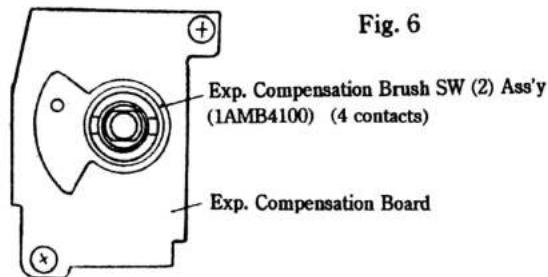

Fig. 6
1) Make certain that the Exp. Compensation Brush SW (2) Ass'y (1AMB4100) (4 contacts) is positioned as shown in Fig. 6.